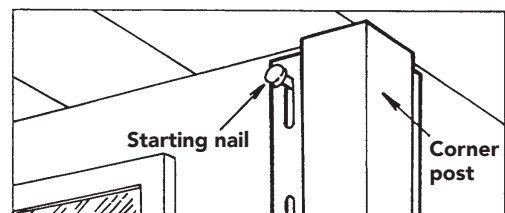

Figure 17
- Space the fasteners a maximum of 16" (406mm) apart for horizontal siding panels, every 12" (305mm) for vertical siding panels, and every 8" to 12" (203mm to 305mm) for accessories. These distances may be increased if the manufacturer permits greater spacing based on wind load testing. Start fastening vertical siding and corner posts in the top of the uppermost slots to hold them in position (Figure 17). Place all other fasteners in the center of the slots.